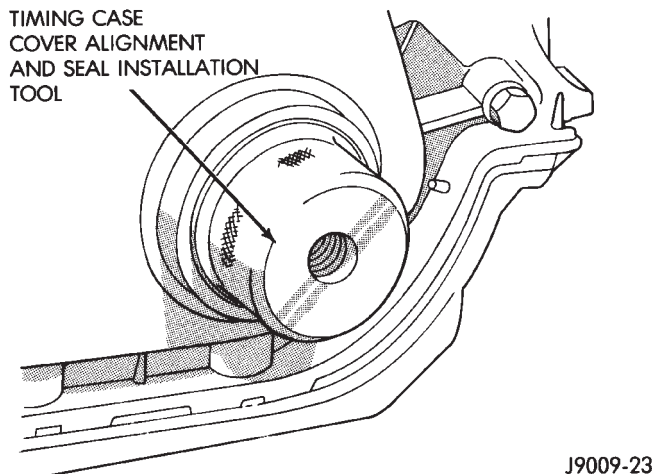

Fig. 37 Timing Case Cover Alignment and Seal Installation Tool 6139
(1) Install a new crankshaft oil seal in the timing case cover. The open end of the seal should be toward the inside of the cover. Support the cover at the seal area while installing the seal. Force it into position with Seal Installation Tool 6139.
(2) Position the gasket on the cylinder block.
(3) Position the timing case cover on the oil pan gasket and the cylinder block. Make sure the tension spring and thrust pin are in place in the camshaft preload bolt.
(4) Insert Timing Case Cover Alignment and Seal Installation Tool 6139 in the crankshaft opening in the cover (Fig. 37).